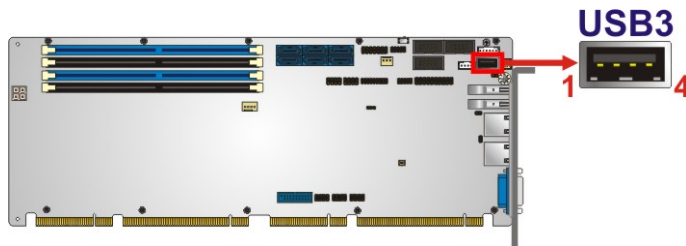

Figure 3-25: USB 2.0 Connector (Type A) Pinout Location
- CN Location:** See **Figure 3-25**